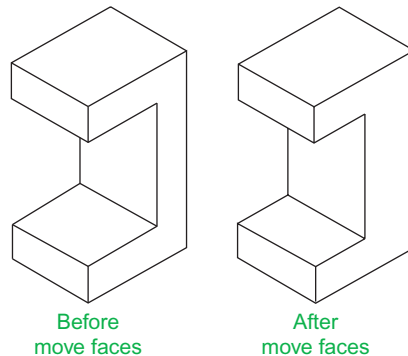

Fig. 18.8 Third example – Solid, Move Faces tool
Third example – Move Faces tool (Fig. 18.8)
1. Construct the 3D solid drawing shown in the left-hand drawing of Fig. 18.8 from three boxes which have been united using the **Union** tool.
And the *picked* face is moved – right-hand drawing of Fig. 18.8.